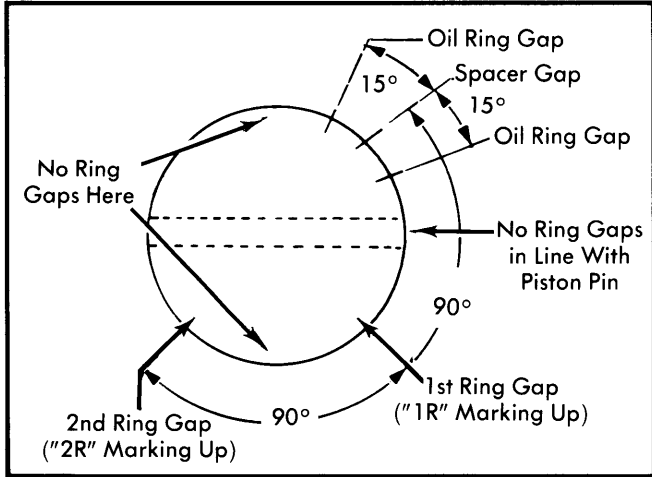

Fig. 5 Piston Ring Installation
2) On 1335 cc engines, cutaway in camshaft gear should be at top, and timing marks aligned with valve cover surface. On 1487 cc engines, cutaway should be at top and timing mark aligned with arrow on cylinder head. See Fig. 5. Slide timing belt on without disturbing pulley positions and adjust belt tension.